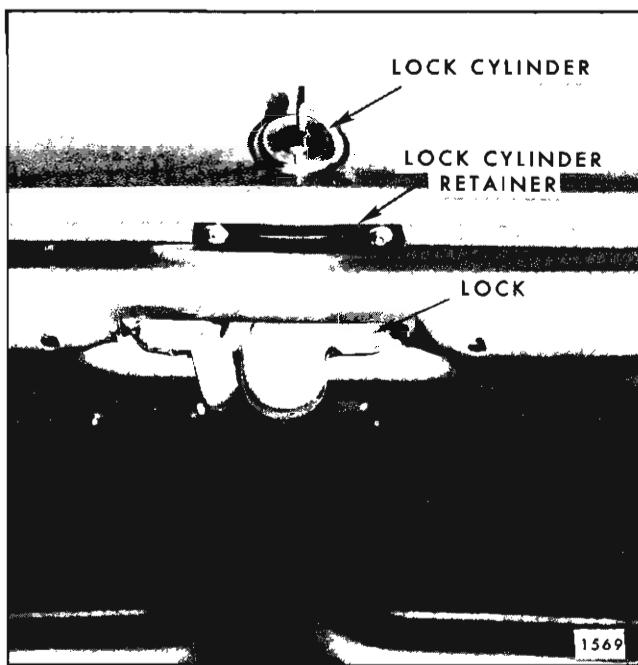

Fig. 2F11—Rear Compartment Lid Lock Cylinder Retainer
1. Open rear compartment lid and remove lock cylinder retainer attaching screws (Fig. 2F11).